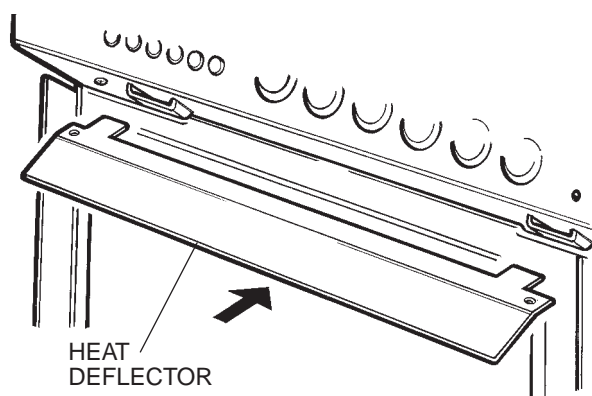

Figure 9 - Heat Deflector
**PLEASE NOTE:** When grilling with the door open, fit the heat deflector (Figure 9). It may get hot in use.